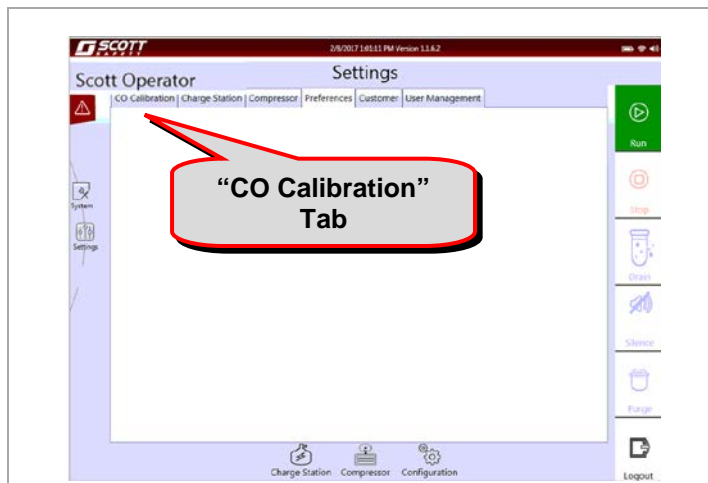

Figure 4.4-3: Select CO Calibration
3. The Settings screen will be displayed. On the Settings screen touch the “CO Calibration” Icon. See Figure 4.4-3.